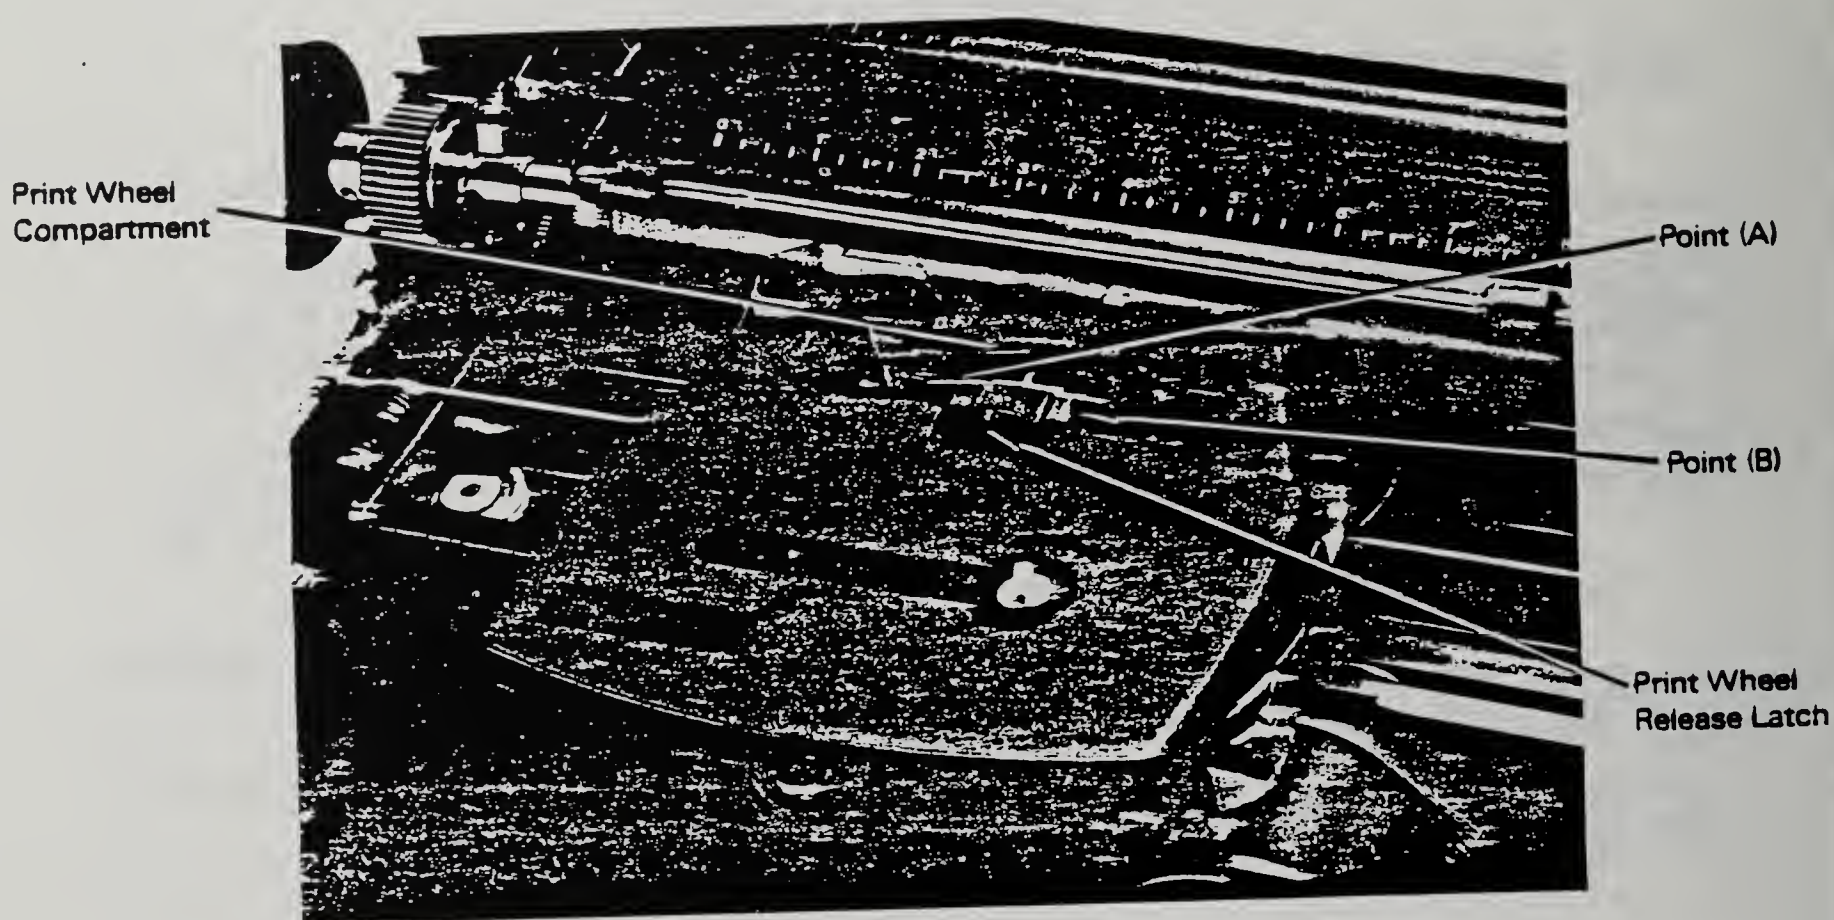

Figure 3-3. Print Wheel Removal/Replacement
2. Push down the print wheel release latch (Figure 3-3) to unlock the print wheel compartment. The compartment will pop open.
5. Push at Point A or B (Figure 3-3) to move the print wheel compartment toward the platen so the print wheel release latch can be pushed home to lock the compartment in its operating position. Close the sound panel.